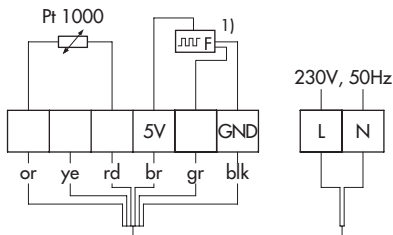

Fig. 3 · Wiring of Type 5757 (default)
The default setting (WE) is configured for an application with a Pt 1000 flow temperature sensor and water flowmeter (see Fig. 3).